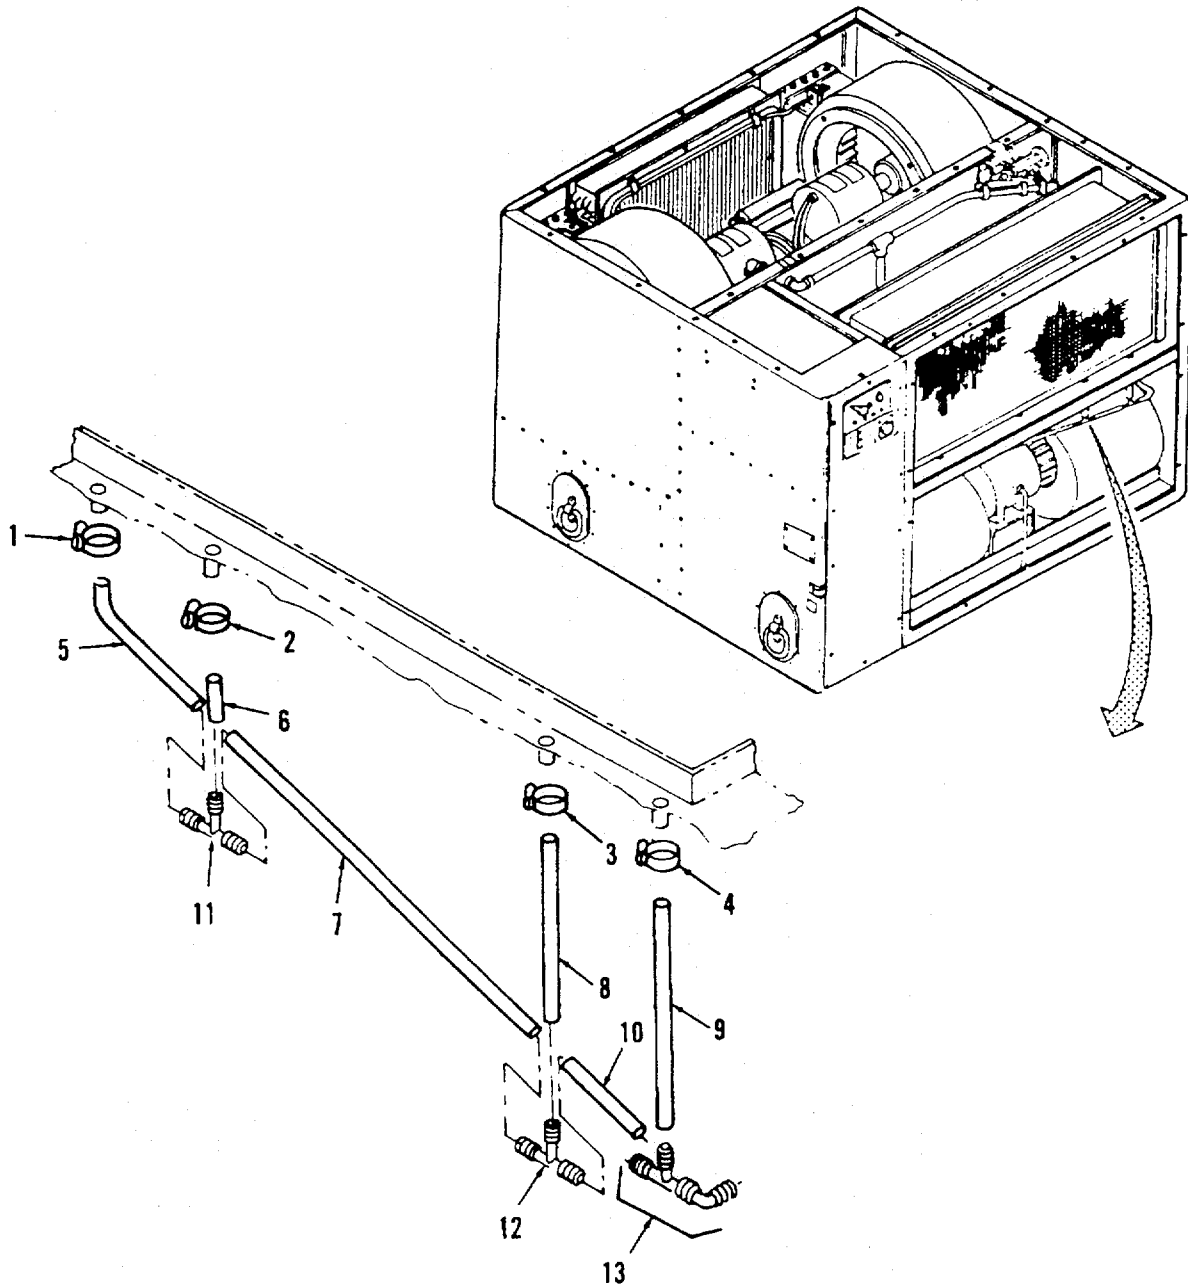

Figure 3-21. Condensate Drain Assembly.
**a. Removal.** (Refer to Figure 3-21).
- (1) Loosen four clamps (1), (2), (3), and (4).
- (2) Remove tubing (5), (6), (7), (8), (9), and (10) from bottom of evaporator drain pan.
- (3) Remove tee (11) and tee (12).
- (4) Remove elbow and tee assembly (13).